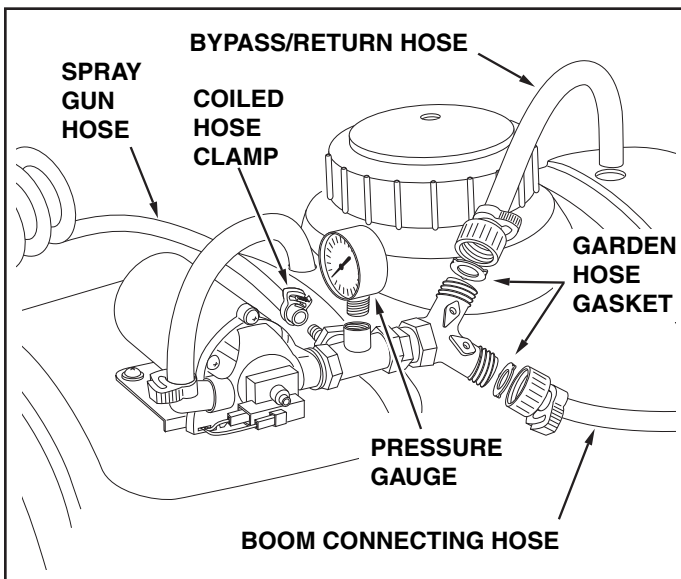

FIGURE 8
13. Insert a garden hose gasket into the swivel nut on the bypass/return hose. Screw the nut onto the upper outlet of the "Y" valve fitting. Place the other end of the hose down through the hole at the rear of the tank. See figure 8.
14. Insert a garden hose gasket into the swivel nut on the boom connecting hose. Screw the nut onto the lower outlet of the "Y" valve fitting. See figure 8.
15. Slide the coiled hose clamp onto the spray gun hose. Push the hose onto the hose adapter on the side of the "T" fitting as shown in figure 8. Tighten the clamp around the hose and the adapter. Snap the spray gun into the clips on the side of the tank.
16. Carefully screw the pressure gauge into the top of the "T" fitting. See figure 8.